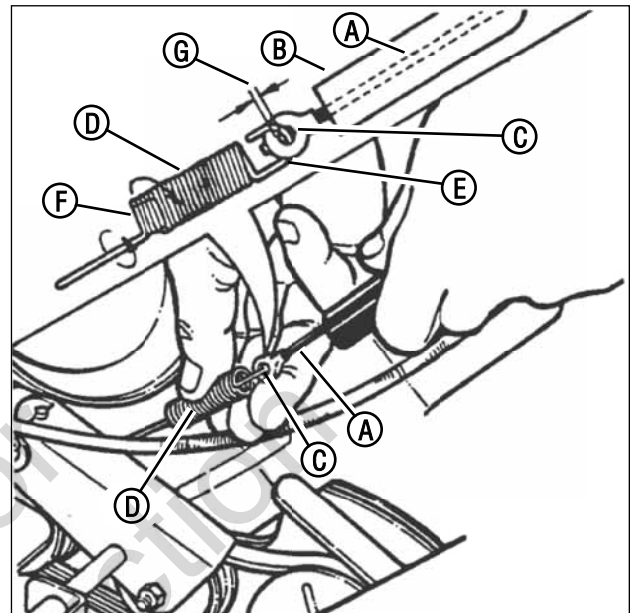

Figure 22: Wheel drive control adjustment
- The wheel drive control is properly adjusted when there is 1/16" to 1/8" clearance (G, Figure 22) between the inside of the spring hook (E) and the inside of the clutch cable eye (C) with the wheel drive control released.